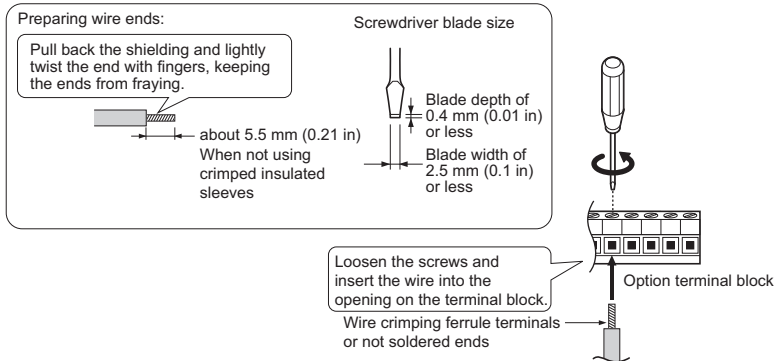

Figure 15 Connect Cable Wiring
5. Wire the customer-supplied circuit to the terminal block on the option according to **Figure 15**. Refer to **Figure 26** for the AO-A3 Option connection diagram. Refer to **Table 5** for a detailed description of the option terminal functions.